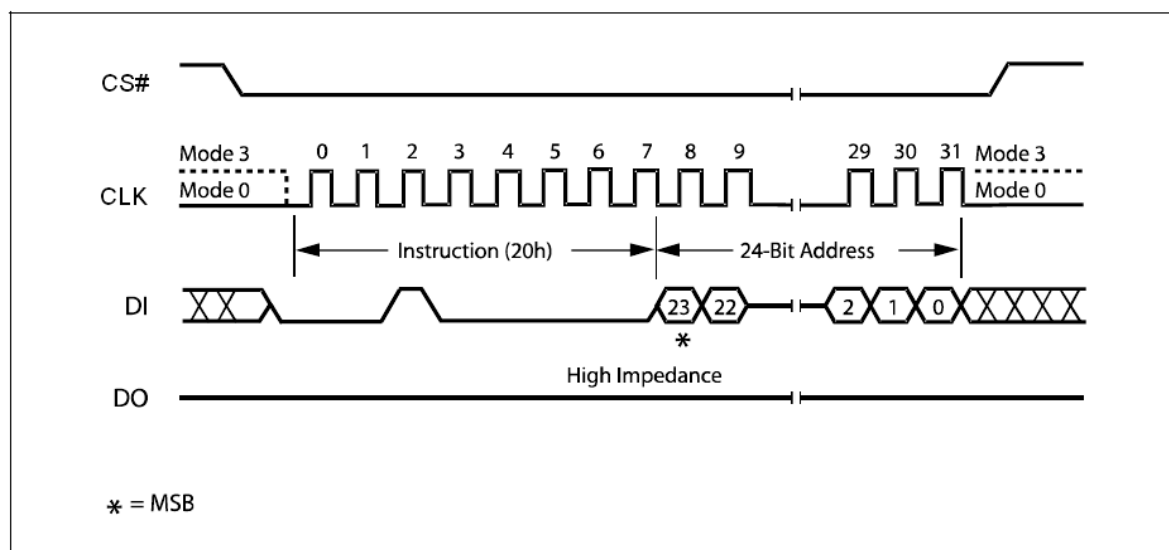

Figure 20. Sector Erase Instruction Sequence Diagram
The instruction sequence is shown in Figure 20. Chip Select (CS#) must be driven High after the eighth bit of the last address byte has been latched in, otherwise the Sector Erase (SE) instruction is not executed. As soon as Chip Select (CS#) is driven High, the self-timed Sector Erase cycle (whose duration is t_{SE}) is initiated. While the Sector Erase cycle is in progress, the Status Register may be read to check the value of the Write In Progress (WIP) bit. The Write In Progress (WIP) bit is 1 during the self-timed Sector Erase cycle, and is 0 when it is completed. At some unspecified time before the cycle is completed, the Write Enable Latch (WEL) bit is reset.